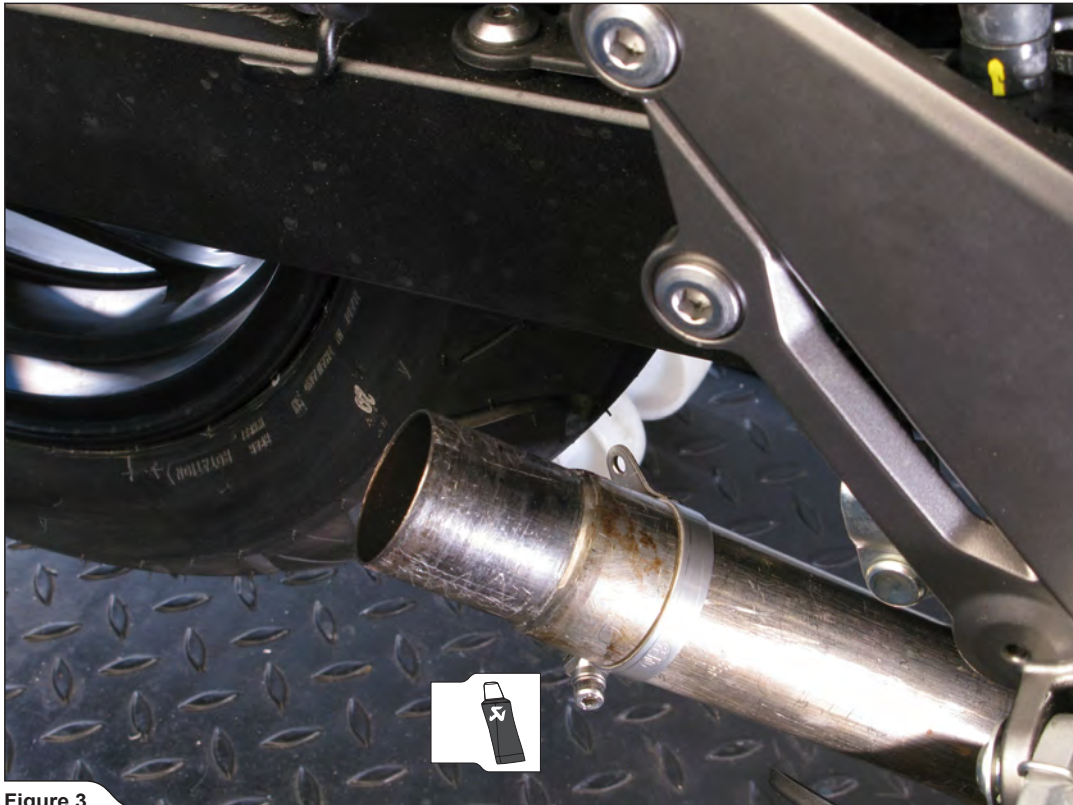

Figure 3
1. Orient and assemble the clamp from Akrapovič installation kit onto the stock pipe, exactly as shown (Figure 3, 4).